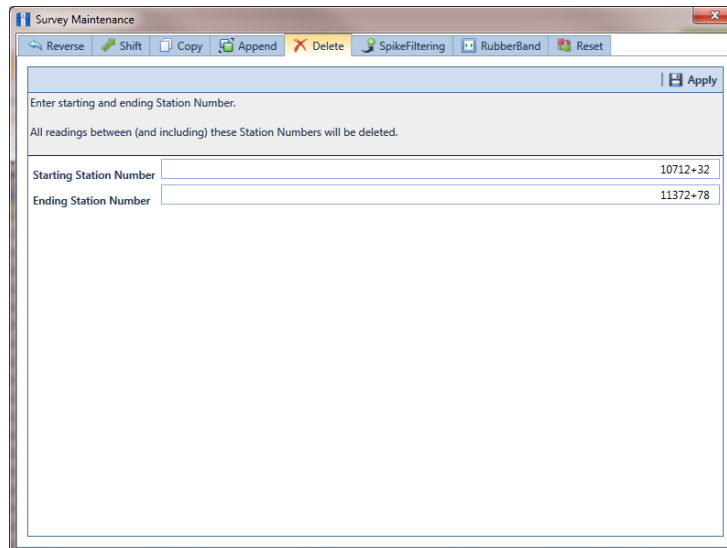

Figure 7-71. Delete Range of Station Numbers
- 5 Click  **Survey Maintenance** to open the *Survey Maintenance* dialog box. Then click  **Delete** (Figure 7-71).